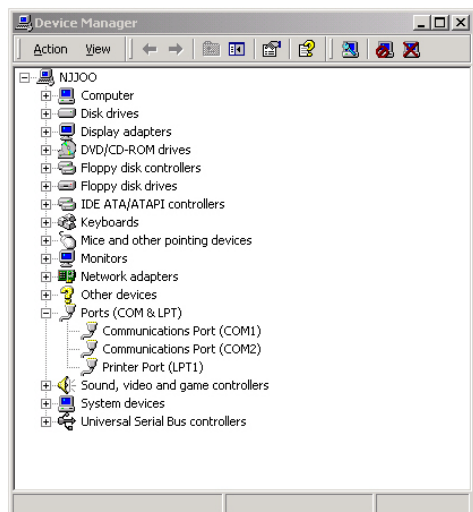

figure 3
- 1) Open the control panel of computer to click “Device Manager”, and then double-click COM1(as showed in Figure 3);